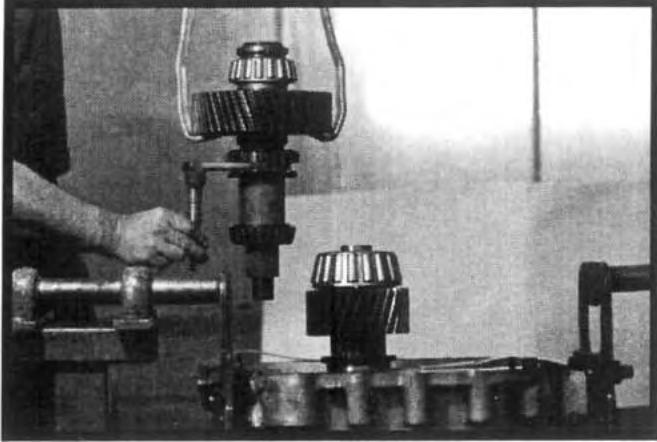

Figure 4.10
- Lift the front output shaft subassembly, together with its shifter shaft/fork, from the housing. See Figure 4.10.